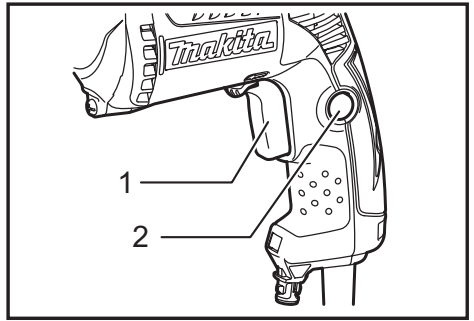

Fig.5
► Fig.5: 1. Switch trigger 2. Lock button